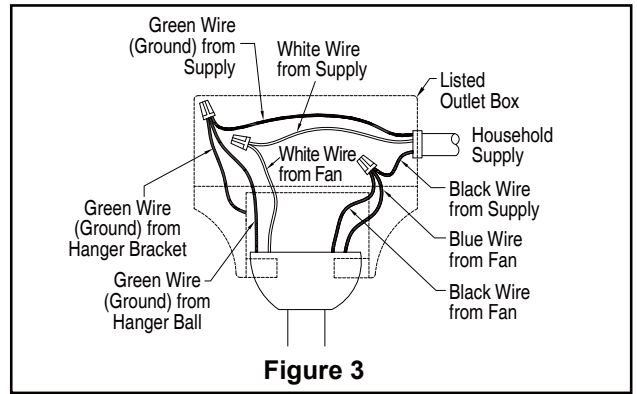

Figure 3
- 3. After splicing and making the wire connections, the wires should be spread apart and turned upward with the grounded conductor and the equipment-grounding conductor on one side of the outlet box and the ungrounded conductor on the other side of the outlet box. (Figure 3)